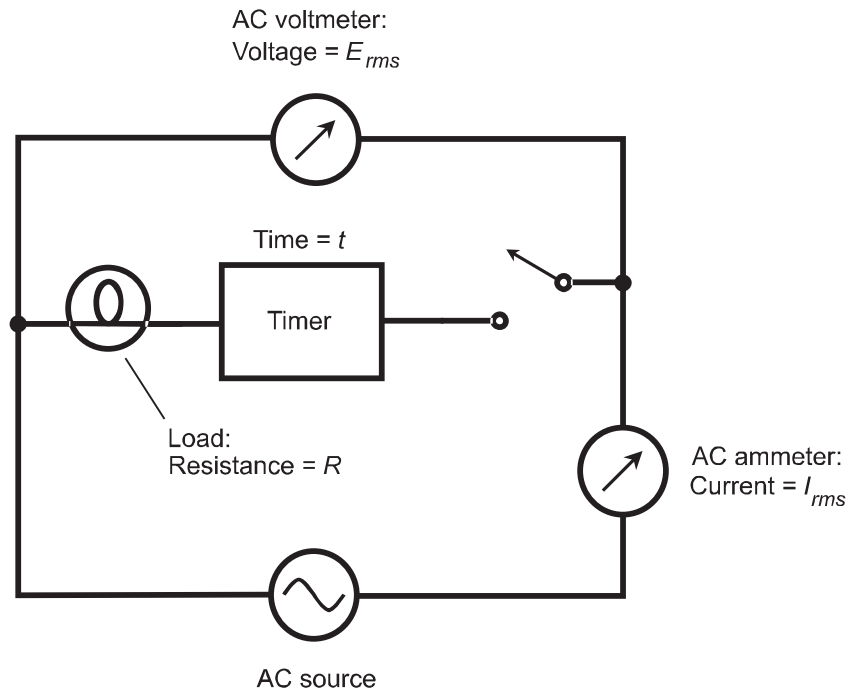

Fig. 7-7. Illustration for Quiz Questions 6 through 9.
6. Examine Fig. 7-7. Suppose the switch is closed. The AC ammeter indicates 3 A rms, while the AC voltmeter indicates 12 V rms. What is the load resistance? Assume that the timer has no resistance.
7. Suppose the switch is closed in the circuit of Fig. 7-7. The AC ammeter indicates 3 A_{rms} , while the AC voltmeter indicates 12 V_{rms} . What is the power drawn by the load? Assume the timer has no resistance.
8. Suppose the switch is closed in the circuit of Fig. 7-7. The AC ammeter indicates 3 A_{rms} , while the AC voltmeter indicates 12 V_{rms} . What is the energy consumed by the load? Assume the timer has no resistance.
9. Suppose the switch is closed in the circuit of Fig. 7-7. The AC ammeter indicates 3 A_{rms} , while the AC voltmeter indicates 12 V_{rms} . The switch is opened after the timer reading has gone from an initial value of 00:00 (0 h, 0 min) to 01:45. What is the energy consumed by the load? Assume that the timer has no resistance.